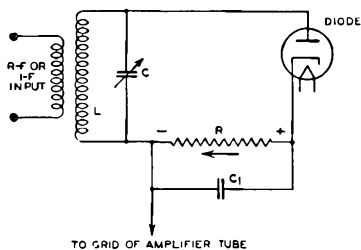

Fig. 21
The **diode method** makes use of the rectifying action of the diode. Although the diode does not amplify, its operating characteristics make it particularly suitable as a detector when freedom from distortion is desired. This suitability is due to the relatively low resistance of the diode in the direction of current flow and the consequent convenient size of the load resistance necessary to give the approximate linearity of the dynamic characteristic required for low-distortion detecting action. Fig. 21 shows a half-wave diode detector circuit. The audio signal voltage is developed across the load resistance (R).
Automatic control of receiver volume generally utilizes a rectified voltage which is dependent on a radio-frequency or intermediate-frequency carrier signal. This voltage may be utilized to regulate the gain of the r-f and/or i-f amplifier stages so as to maintain essentially constant-carrier input to the audio detector. The regulation of amplifier gain by means of the rectified voltage may be accomplished by a number of methods, differing chiefly in the means of applying the voltage to the various electrodes of the amplifier tubes. For example, the control voltage might be applied to the suppressor, plate and/or screen of an r-f pentode. A more familiar method is that in which the control voltage is applied to the grid of the r-f amplifier. In Fig. 21, current flows from plate to cathode, through R back to L.C. This places the cathode end of load resistor (R) at positive potential and the opposite end at negative potential. Negative voltage for biasing the grids of the r-f amplifiers may be obtained from the negative end of this resistor.